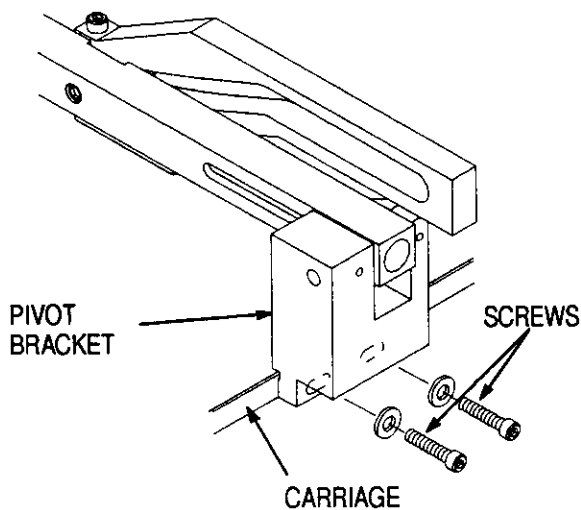

Figure 2
3. Attach the pivot bracket to the back of the machine carriage with the No. 10-32 screws provided. Refer to Figure 2. Tighten the screws with a 5/32-in. hex wrench.